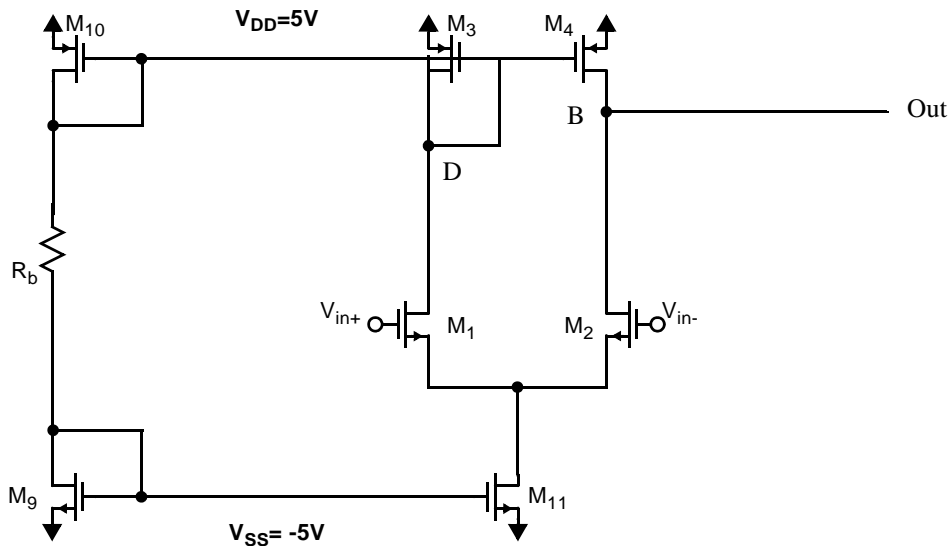

Figure 1: Folded-Cascode OpAmp
Design, simulate, and prototype the CMOS operational amplifier in Figure 1 using discrete MOSFETs to satisfy the specifications listed below. Use the design methodology as detailed in the subsequent sections. You will need to select values for  $R_b$  and  $V_C$ . You may also vary the effective widths of the MOSFETs by placing multiple devices in parallel. Be prepared to justify your design choices. Use the device parameters provided in the previous lab for your hand calculations.
Using open circuit time constant analysis, calculate the time constants at each of the four nodes in the signal path of the circuit. These are, in order of importance, nodes A, B, C and D as labelled in Figure 1. You now have sufficient information to calculate your expected -3dB
- Connect the voltmeter across the terminals labelled A and C in Figure 1. Adjust the offset until the voltage drop  $V_A - V_C$  is zero. This is a very sensitive measurement. Record this input offset in your lab book. Now adjust the applied offset to center the output DC level for maximum swing.